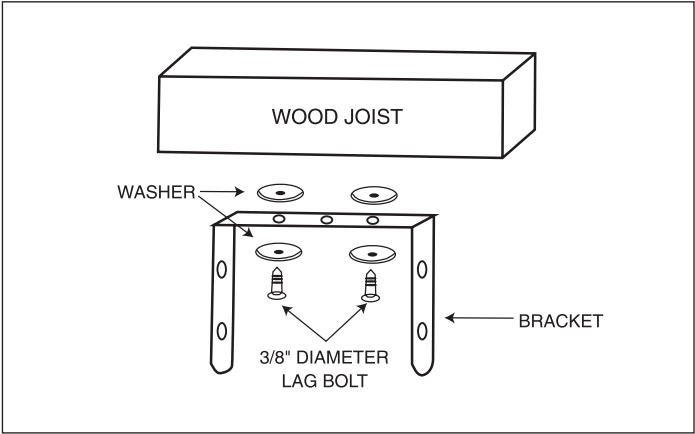

FIGURE 3B - DOUBLE-BOLT MOUNTING
- **Figure 3B:** For double-bolt mounting (both off-center holes are used).